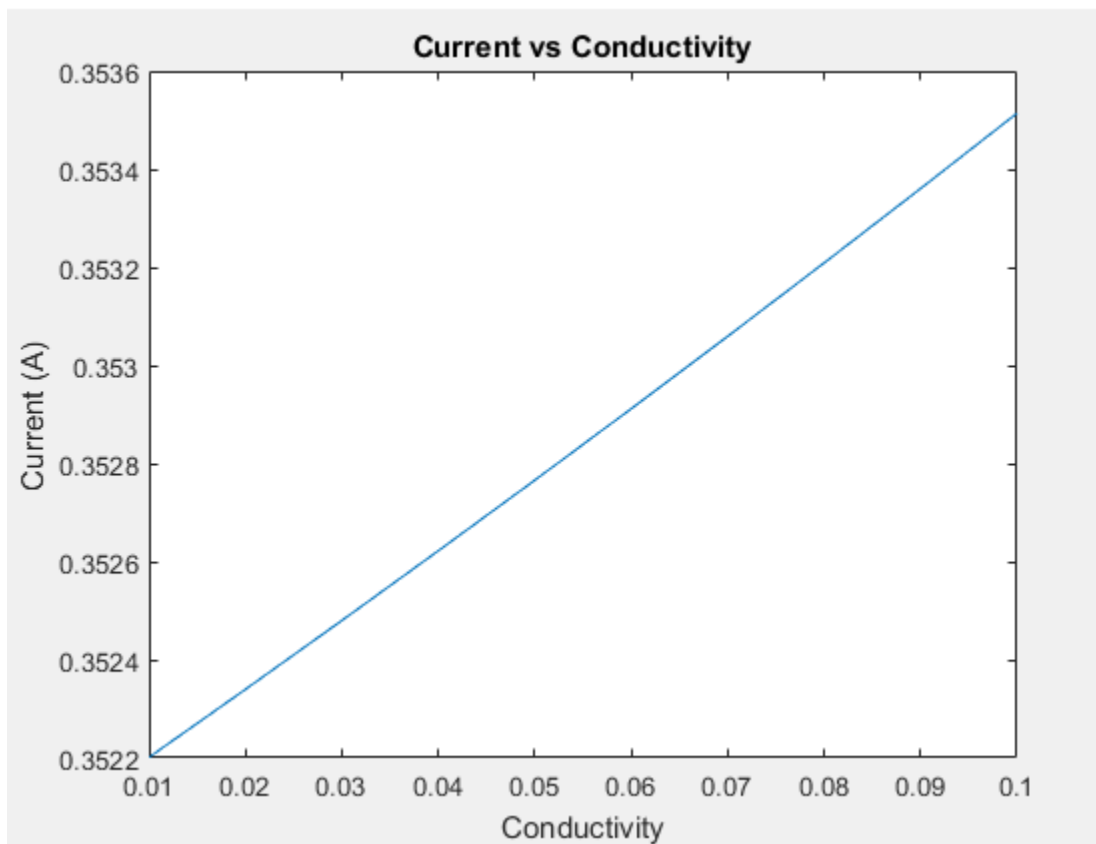

Figure 11: Current vs Conductivity
- d. The current increased linearly with conductivity inside the boxes. The starting conductivity was 0.01 and was increased by 0.01 for 10 iterations. Figure 11 below shows the plot of current versus conductivity.